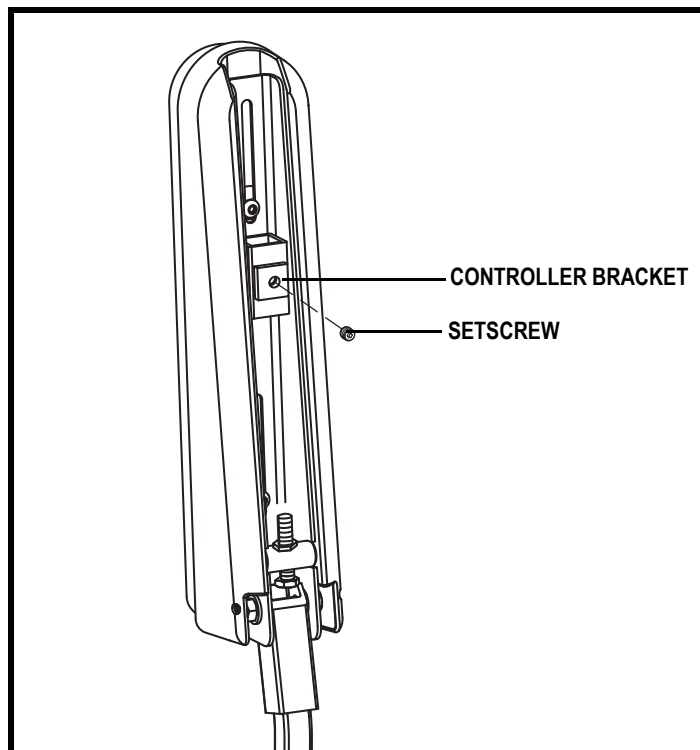

Figure 15. Underside of Armrest
2. Loosen the setscrew on the controller bracket. See **figure 15**.